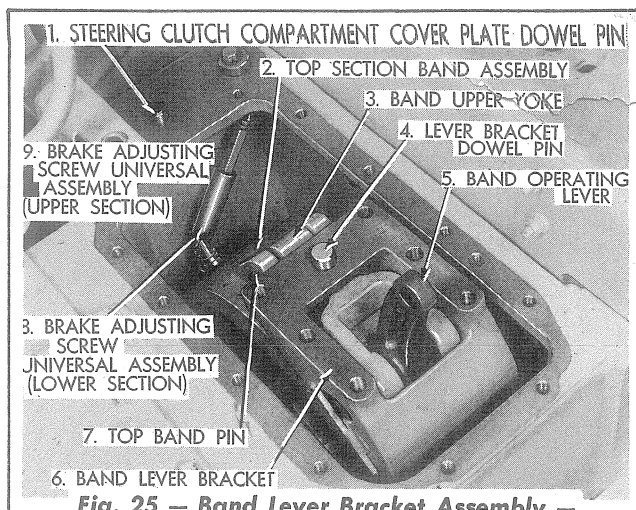

Fig. 25 — Band Lever Bracket Assembly — Installed
8. Position the band lever bracket so that the lever bracket dowel pin (Fig. 25) is aligned with the dowel pin hole in the cover plate. Start the six capscrews and lockwashers attaching the band lever bracket to the steering clutch compartment cover plate but do not tighten the capscrews at this time.